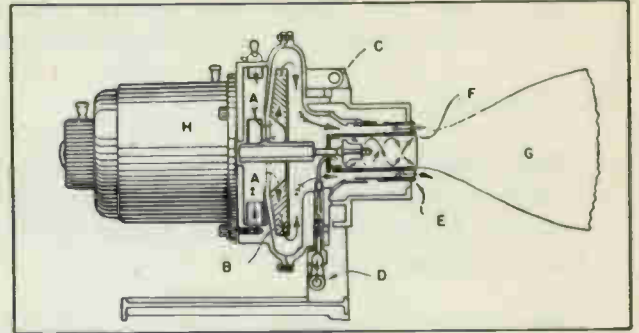

Fig. 9 Horizontal rotary cup type atomizing oil burner.
- (2) Horizontal axis of rotation. See Fig. 9